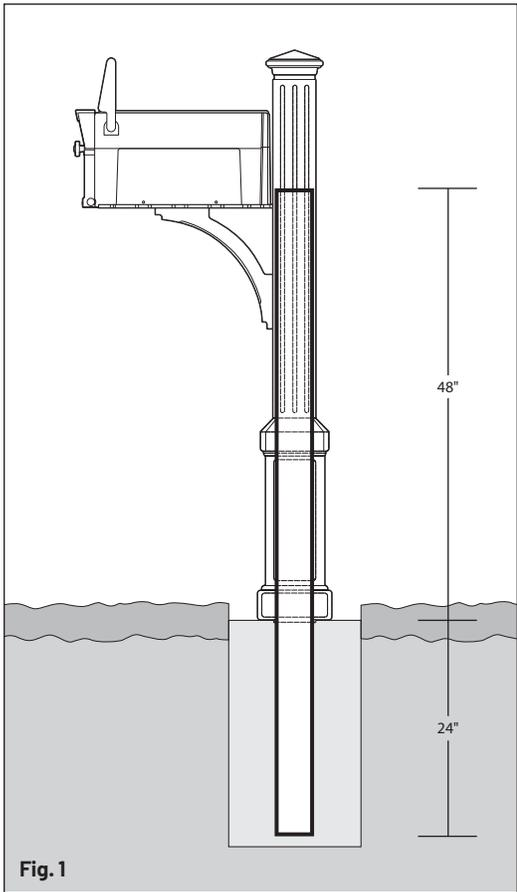

Fig. 1
**⚠ IMPORTANT:** The pressure treated wood post **MUST** extend up into the Lexington Post a minimum of 48" as shown on Fig 1. When completing installation steps 3 and 4 (attaching Steel L Bracket and Decorative Support Piece), the screws must self-tap through the wall of plastic and then drill into the wood post in order to fully stabilize the product.